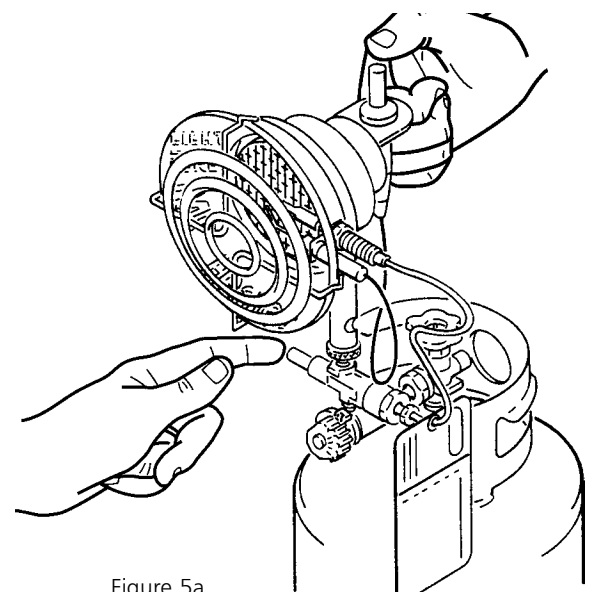

Figure 5a
- E. To light MH12TS, press "Sparklite" igniter Safety Shutoff Valve button at the same time. (See Fig 5a) Prior to pressing "Sparklite" igniter. After the heater is lit, continue to hold valve button in for 30 seconds, then release the button slowly.